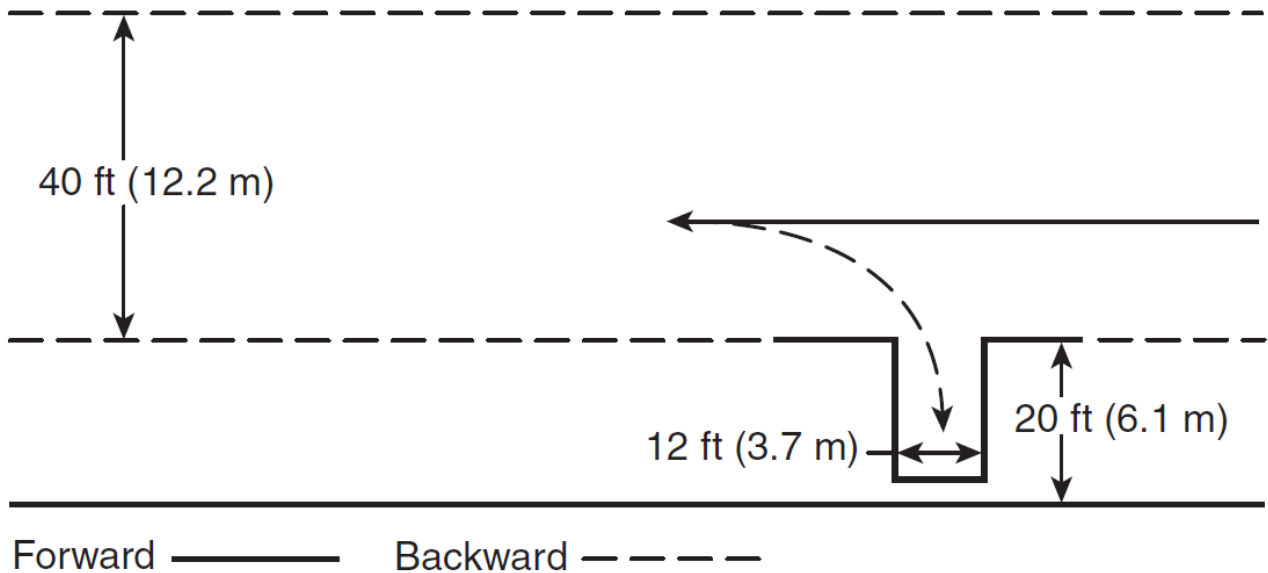

FIGURE A.4.3.2(a) Alley Dock Exercise.
A.4.3.2: The alley dock exercise measures a driver’s ability to drive past a simulated dock or stall, back the apparatus into the space provided, and stop smoothly. A dock or stall can be simulated by arranging barricades 40 ft (12.2 m) from a boundary line. These barricades should be 12 ft (3.7 m) apart, and the length should be approximately 20 ft (6.1 m). The driver should pass the barricades with the dock on the left and then back the apparatus, using a left turn, into the stall. The exercise should then be repeated with the dock on the right side, using a right turn. [See Figure A.4.3.2(a).]